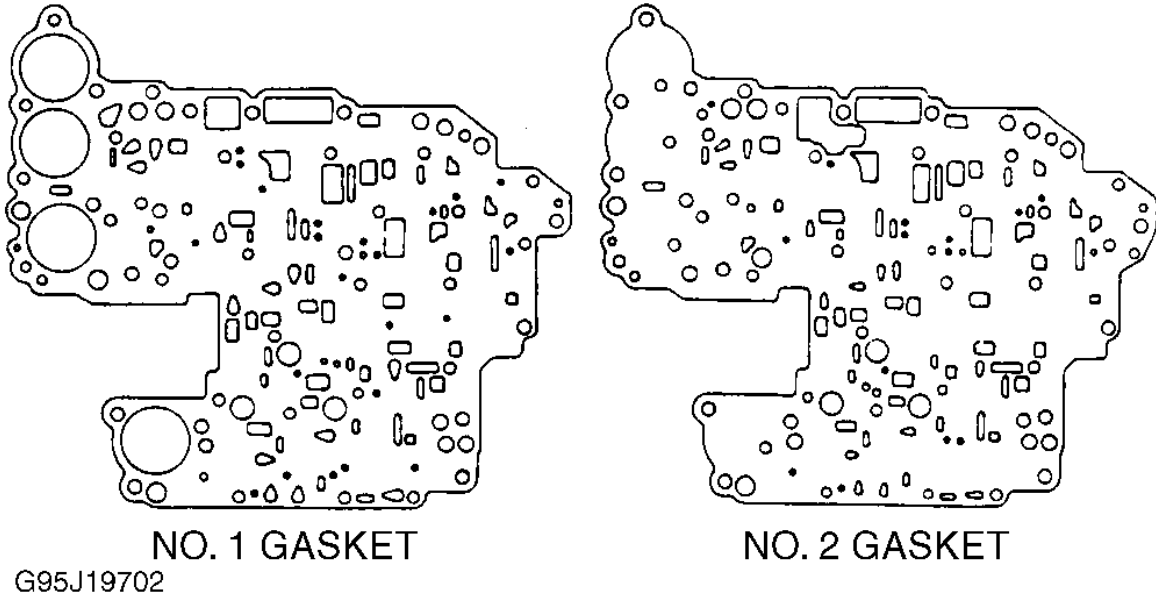

Fig. 71: Identifying A-245E & A-246E Valve Body Gaskets
1. Coat all components with ATF. To reassemble, reverse disassembly procedure. Position NEW No. 2 gasket, plate and NEW No. 1 gasket on lower valve body. Ensure gaskets are installed in correct locations. See Fig. 71 .